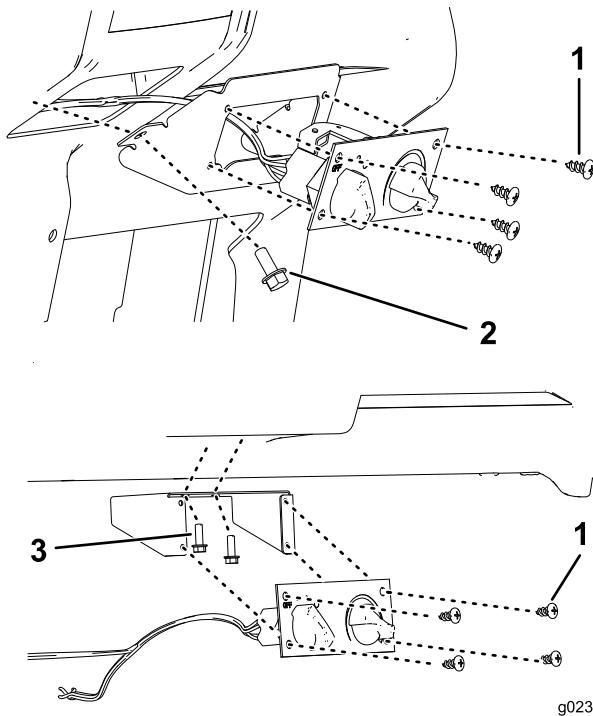

Figure 5
4. Attach the heater control to the heater control mount using 4 sheet metal screws (Figure 5).
5. Connect the heater control cable and black wire harness connector to the heater control and the white wire harness connector to the heater (Figure 5).
7. Secure using 4 Bolts (5/16 inch) in the front of the heater control mount and either 2 bolts (5/16 inch for the HD models) on the side of the mount or 2 bolts (1/4 inch for the MD models) on the inside top of the mount, depending on which model you have (Figure 5).